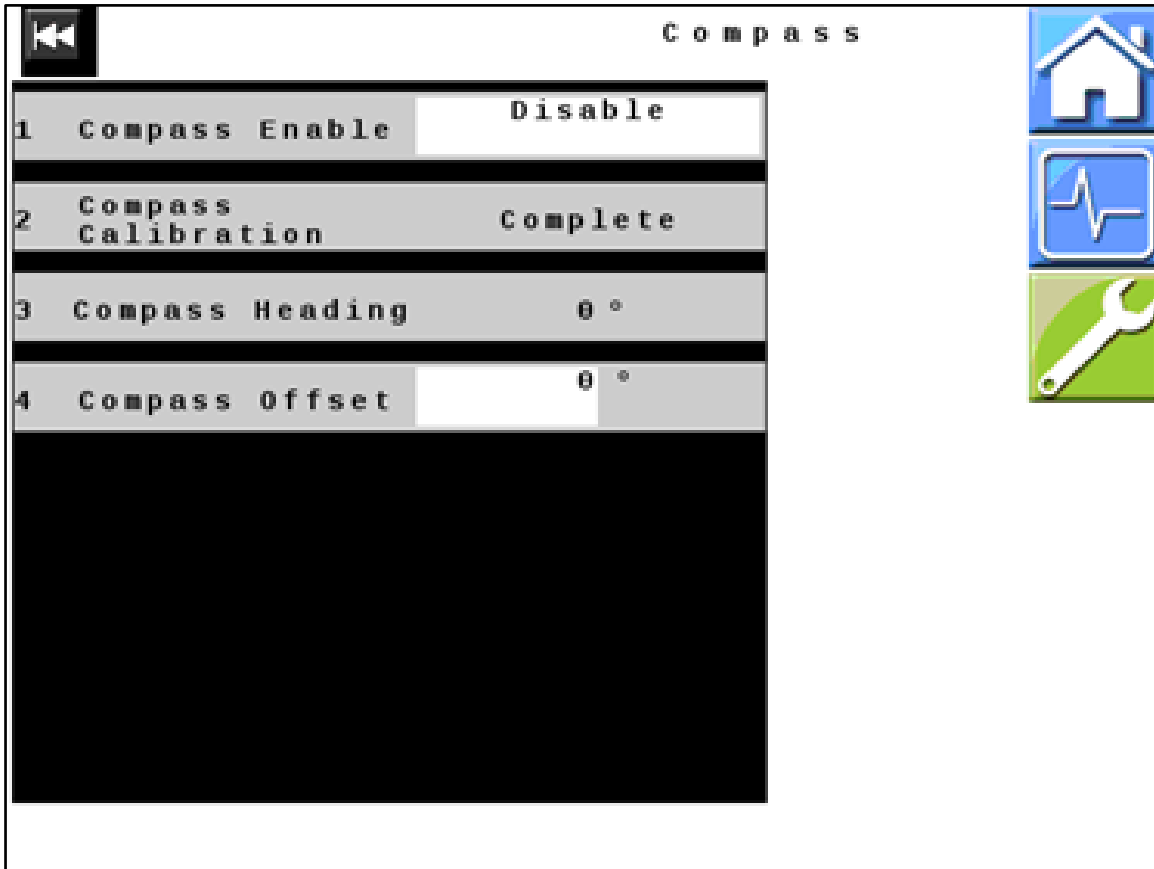

Figure 23 — Compass
41. *Figure 23:* Verify that all values displayed on your unit match those shown here. Change values if necessary.